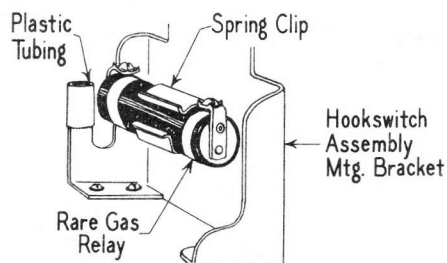

Fig. 14
5.06 R.T.C. No. 2 Rare Gas Relay: The spring clip portion of a No. 50072-2 Tube Bracket is used for mounting the rare gas relay. After the base section of the tube bracket has been removed, attach the spring clip to the hookswitch assembly mounting bracket by means of the mounting screw placed through one of the holes in the center section of the hookswitch assembly mounting bracket. Insulate the mounting bracket for the 333A Vacuum Tube with plastic tubing to prevent contact between the rare gas relay and the bracket. See Fig. 14.